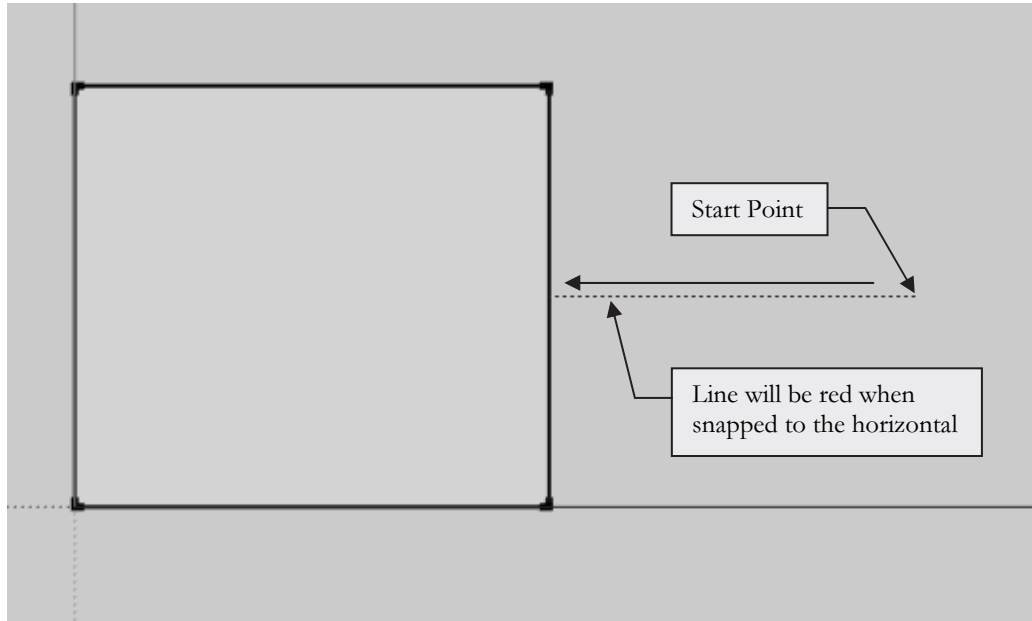

FIGURE 4-2.8 Moving an edge
24. Pick the mid-point of the selected line; move the mouse towards the left – while locked to the vertical (Figure 4-2.8). **Do not click yet.**